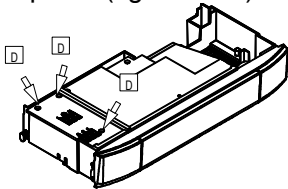

Figure 15.8
- Loosen screws D and remove the service panel (figure 15.8).
- remove the service panel (figure 15.8).